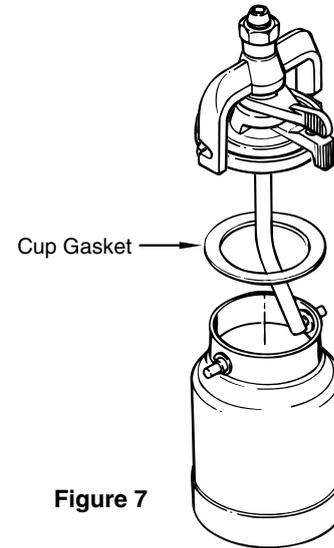

Figure 7
2. Pour a small amount of appropriate solvent in the cup, attach cup to gun, shake and spray solvent through the gun in a well ventilated area. Do not restrict nozzle when cleaning with a hand or other body parts as back flushing of the system is not necessary. See figure 7 for proper cleaning of the check valve and air tube.
**NOTE: The cup gasket must be replaced periodically due to normal wear and tear. It is important to inspect these gaskets during each cleaning (see figure 7).**